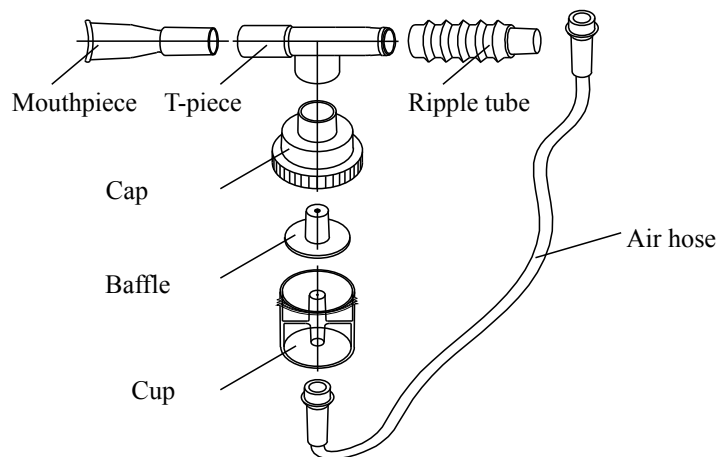

Figure 8: Nebuliser Components
- After finishing cleaning, must dry all the components before storage. (Nebuliser installment is shown in figure 8).
- 1) After nebulising, remove the nebuliser from oxygen concentrator. Turn off the oxygen concentrator, disconnect the hose, remove the cap, disassembly the nebuliser as shown in Figure 8.